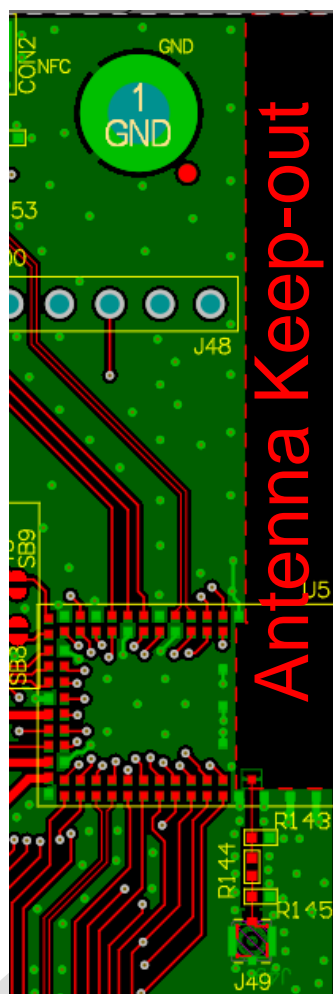

Figure 9: PCB trace Antenna keep-out area (shown in red), corner of the BL653 development board for the 453-00039 module.
- The BL653 development board has the 453-00039 module on the edge of the board (not in the corner). The antenna keep-out area is defined by the BL653 development board which was used for module development and antenna performance evaluation is shown in Figure 9, where the antenna keep-out area is ~5 mm wide, ~39.95 mm long; with PCB dielectric (no copper) height ~1 mm sitting under the 453-00039 PCB trace antenna.
- Host PCB land pattern and antenna keep-out for the BL653 applies when the 453-00039 is placed in the edge of the host PCB preferably in the edge center. Figure 9 shows an example.